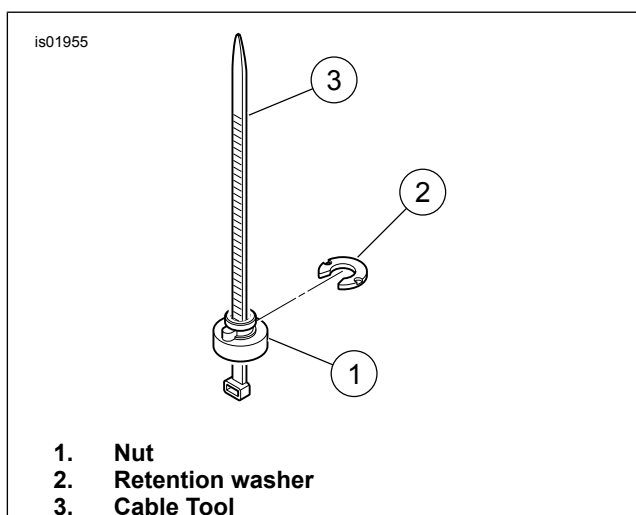

Figure 3. Retention Nut, Washer and Cabel Strap
4. See Figure 3. A cable strap (3) can be used as an installation tool.
- a. Place the retention nut (1) over the cable strap. Position so the wide end of the nut rests on the eye of the cable strap.